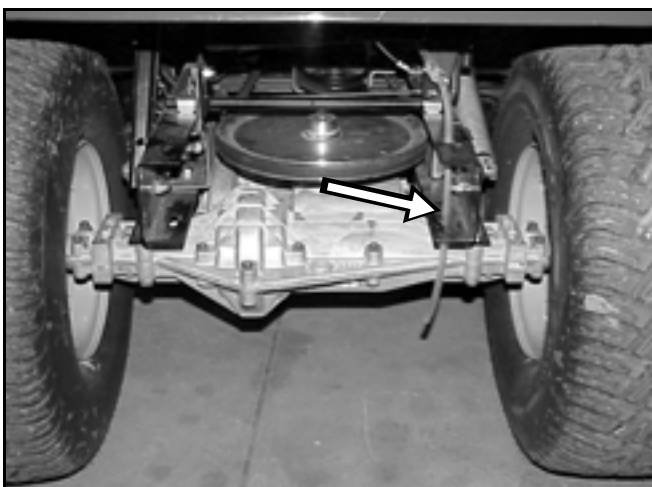

Figure 51
- Install battery and battery tray. **Note: If the battery uses a battery drain tube, make sure the tube is reinstalled through the rear hole in the frame** (Figure 51). Connect the battery cables. Start the tractor and check the shift linkage and the brakes to make sure they are operating properly. If adjustment is needed, refer to "Adjusting the Brake" on page 2 - 15 or "XL Gear Drive Shift Lever Adjustments, MST-205 Transaxle" on page 2 - 14. Test and operate the safety interlock system.